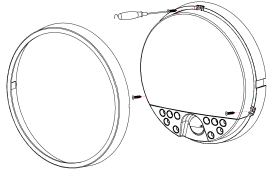

Figure1
- Unload the plastic cover to open it. (refer to figure1)